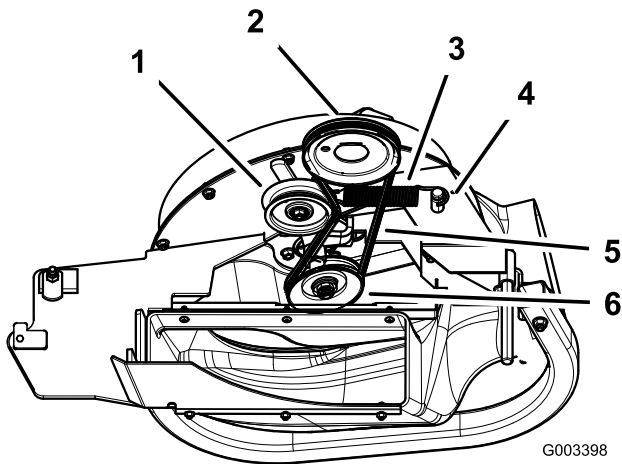

Figure 34
3. Pull back on the spring loaded idler pulley to relieve the belt tension (Figure 34).
5. Install the new belt around the blower pulleys and the mower deck pulley (Figure 34).
7. Pull back on the spring loaded idler pulley and install the belt onto the spring loaded idler pulley (Figure 34).